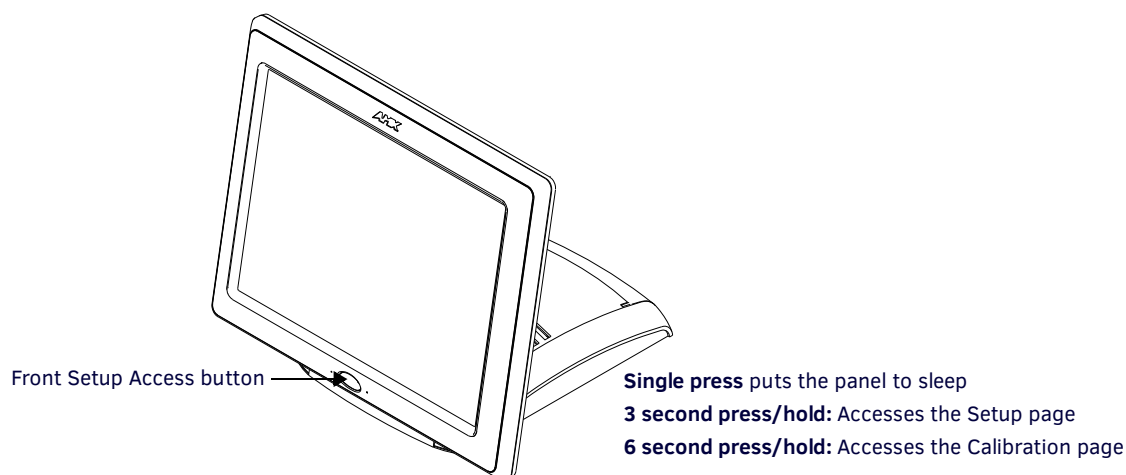
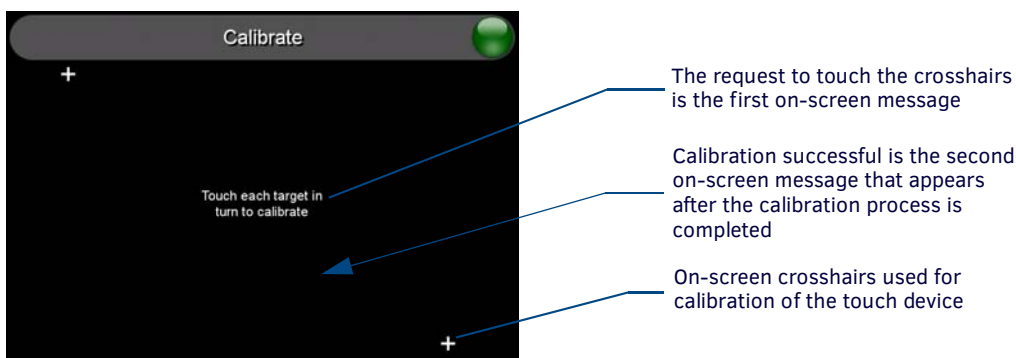

FIG. 66 Location of grey Front Setup Access button
FIG. 67 Touch Panel Calibration Screens
1. Press and hold the grey Front Setup Access button (FIG. 66) for **6 seconds** (passing-over the Setup page) to access the Calibrate page (FIG. 67). *The panel should first be calibrated properly.*
2. Press the crosshairs (on the *Calibrate* page) to set the calibration points on the LCD (FIG. 67).